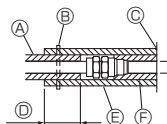

Fig. 4-1
- Be sure to add insulation work to water piping by covering water pipework separately with enough thickness heat-resistant polyethylene, so that no gap is observed in the joint between indoor unit and insulating material, and insulating materials themselves. When insulation work is insufficient, there is a possibility of condensation, etc. Pay special attention to insulation work in the ceiling plenum. [Fig. 4-1]